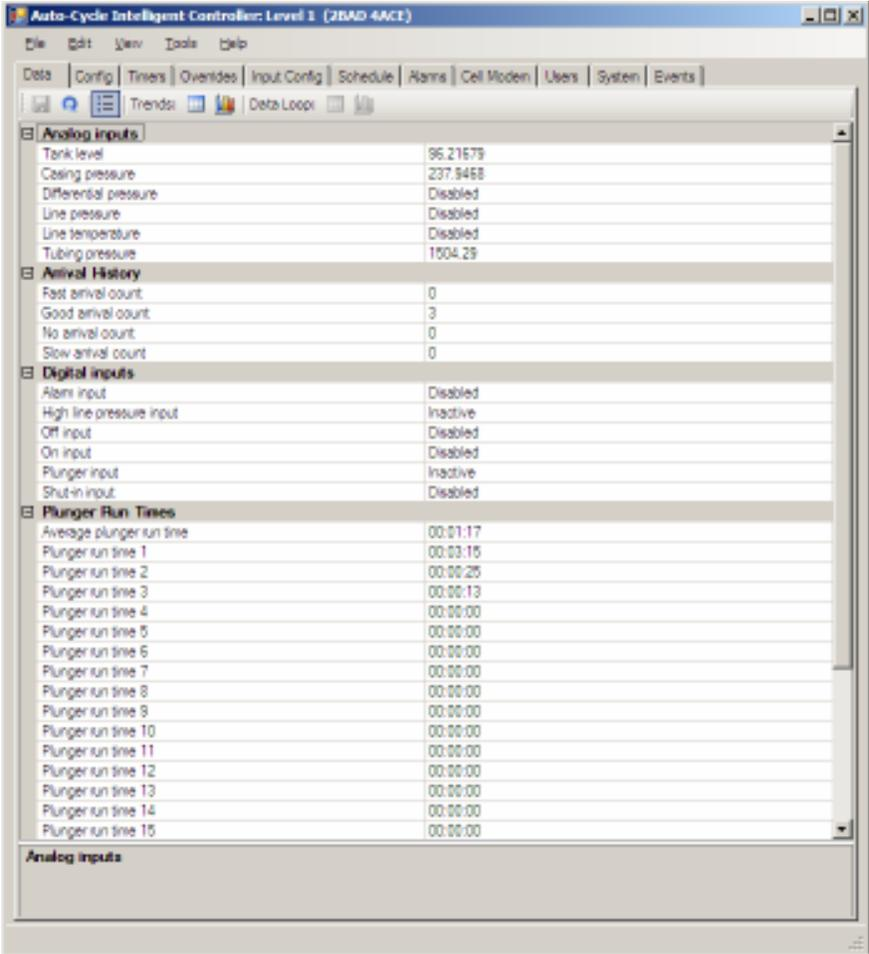

Figure 4. ACiC Opening Screen
5. Double click on the ACiC. *iNodeConfig iC* will connect and the ACiC opening screen will be displayed as shown in Figure 4.